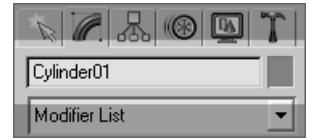
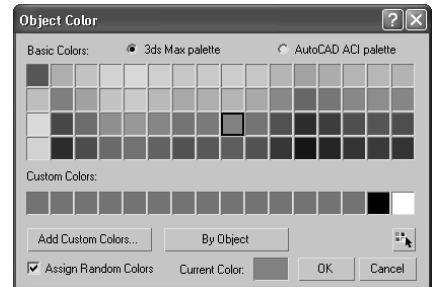

Figure 2.5
Figure 2.6
4. With the cylinder still selected in the Perspective panel, click the Modify tab (🔍) in the Command panel to bring up all the nifty tools you can use to modify objects in Max. You will rename the cylinder and size it to be a bar for the mobile. At the top of the panel, you'll notice a text box with *Cylinder01* and a colored square next to it, as shown in Figure 2.5. The color swatch is the Object Color, and it helps you organize your elements in a scene. The color is easily changed by clicking on the swatch and simply choosing another color from the window that pops up (as seen in Figure 2.6).